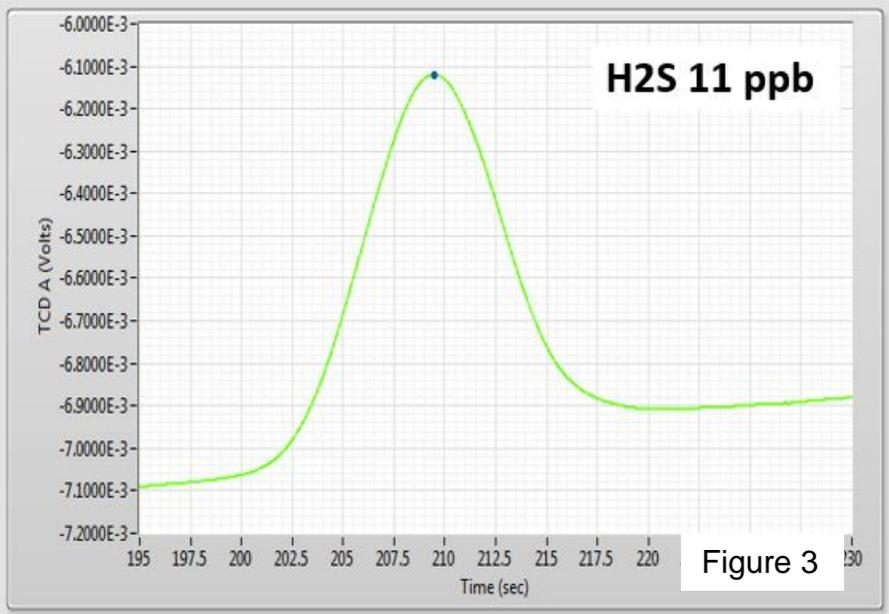

Figure 3: TCD sensor response to an 11 ppb hydrogen sulfide signal
- Data should look close to **Figures 3 -7**